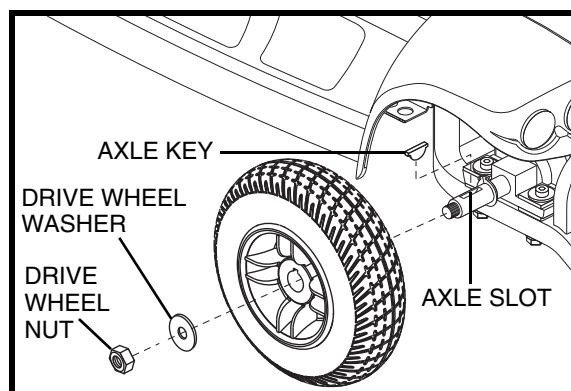

Figure 25. Wheel Replacement
3. Remove the drive wheel nut and washer from the axle. See **figure 25**.